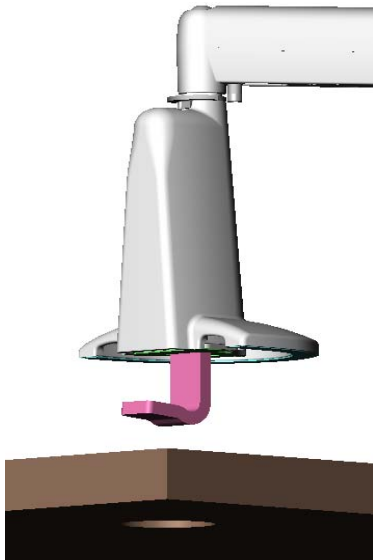

Figure 6. Install in 2" or 3" Diameter Hole
4. Using the 3/16" hex wrench (provided), loosen the clamp wide enough to fit through the hole in your table top or work surface (see Figure 6).